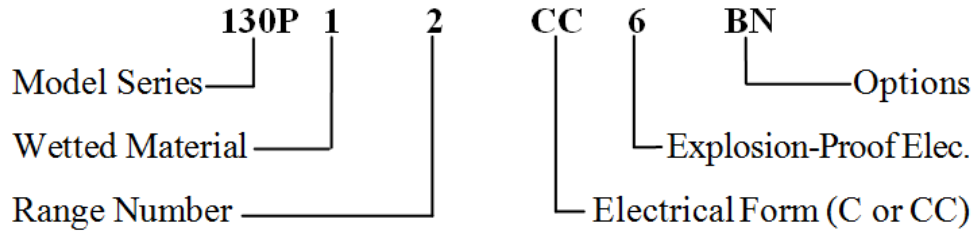

Figure 3. Part Number Breakdown
The part number contains information about which configurations and options are included in your Adjustable Pressure Switch. To determine the pressure range, electrical rating, and options, compare the part number of your unit with the information in Figure 3 the following tables.
* See Figure 3 for the part number breakdown